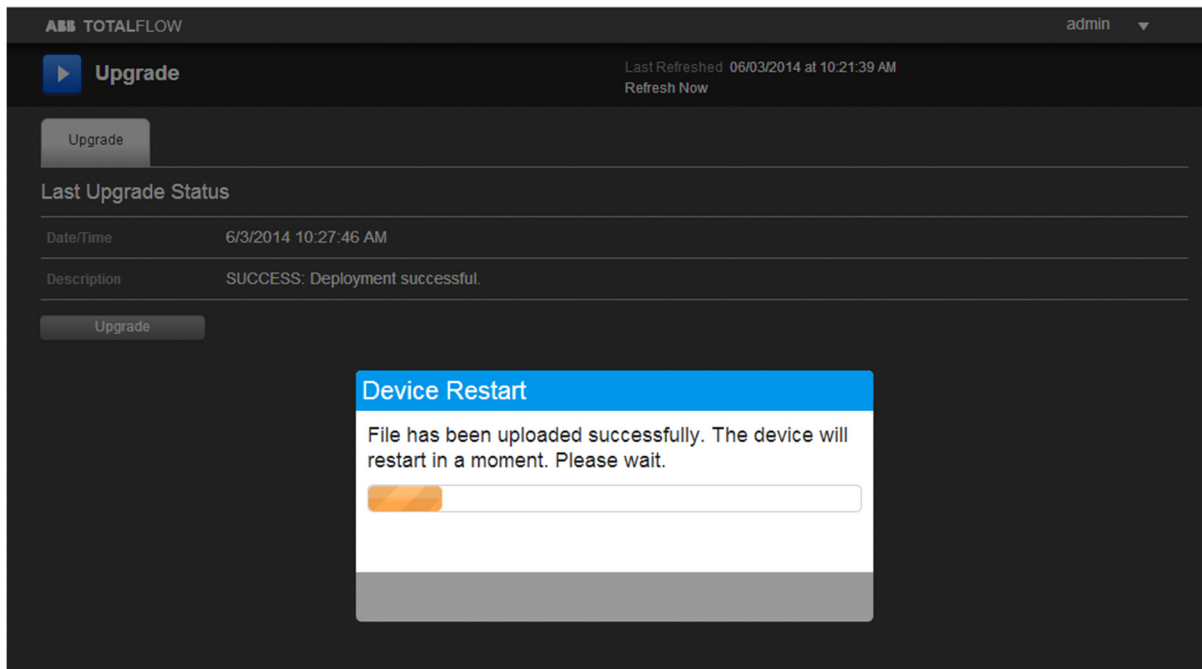

Figure 11: Upload Success
6. Verify extraction completes successfully and the device restarts (Figure 11).